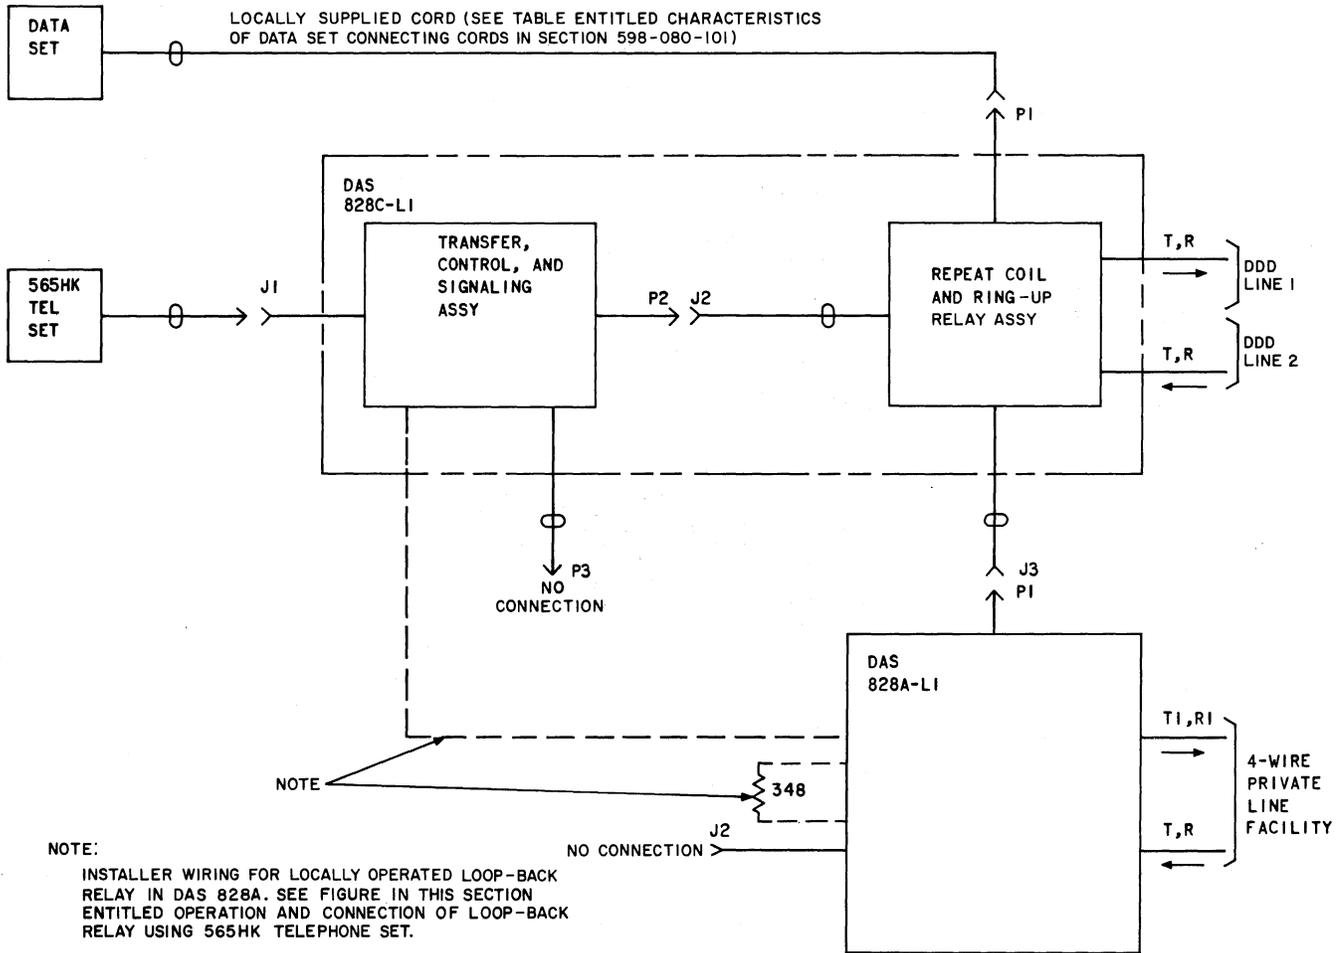

Fig. 2—Circuit Arrangement for DDD Backup of 4-Wire Private Line Without Alternate Voice Transmission
3.02 A block diagram of the data-only station arrangement with DDD backup is shown in Fig. 2.
- (3) If DAS 828C is associated with DAS 828A-L1, connect per Fig. 2. Modify the telephone set wiring as shown in Fig. 6A and, if the data set is 2-wire, modify the telephone set wiring per Fig. 6B.
- (4) If DAS 828C is associated with a PL data set, such as data set 208A or 201C, that is not compatible with the switched network and 2-line DDD backup is desired, a 227D amplifier must be used. The additional parts required to mount the 227D amplifier with DAS 828C are listed below.